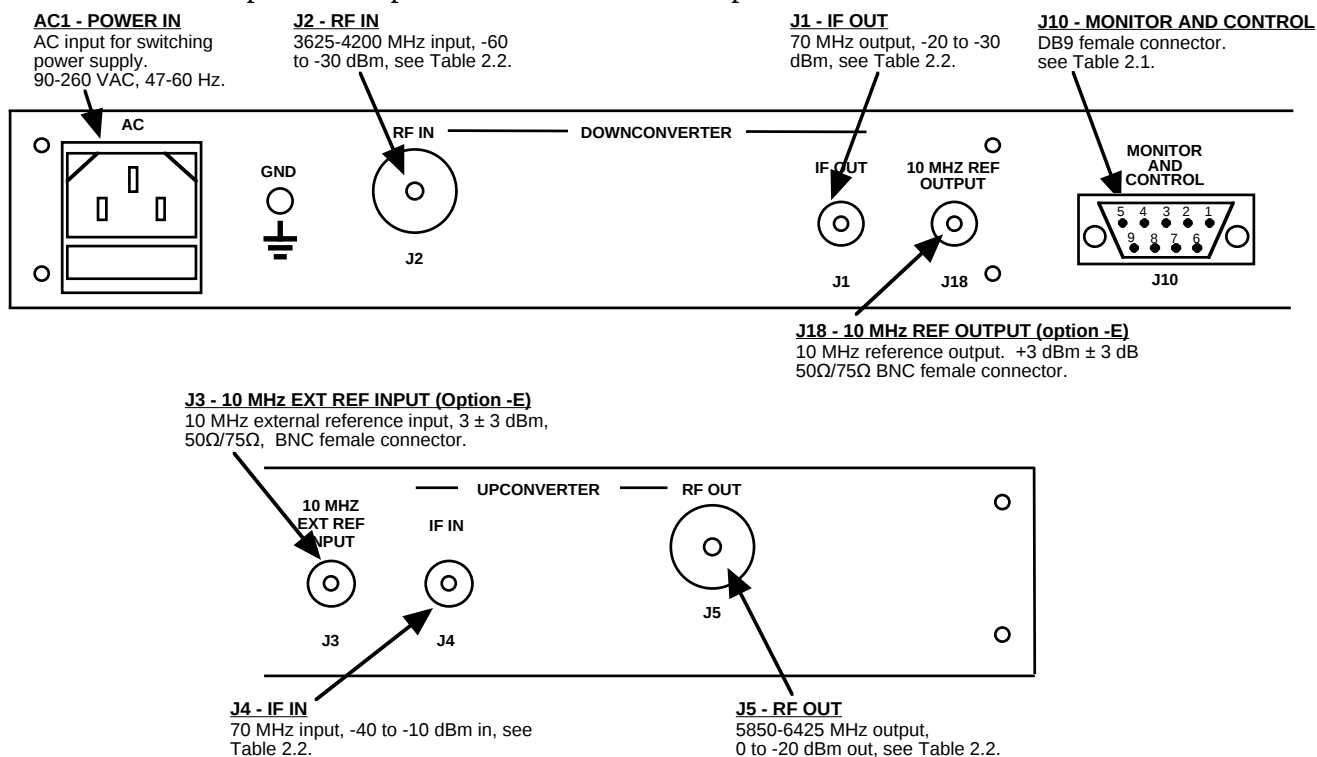

Figure 2.1 Rear Panel I/O's
Figure 2.1 shows the input and output connectors on the rear panel.
1. Connect a -10 dBm to -40 dBm signal to IF In, J4 (Figure 2.1).
1. Connect a -60 dBm to -30 dBm signal to RF In, J2 (Figure 2.1).